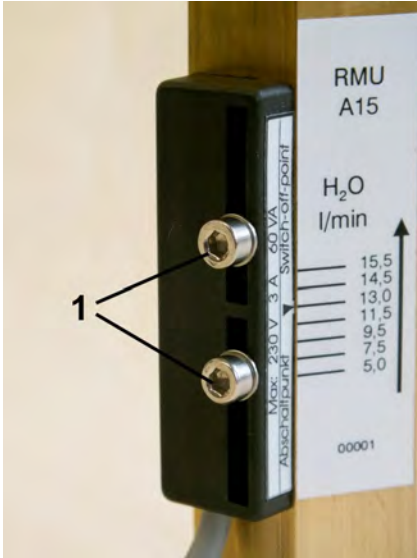

Fig. 24: Loosen the set screws (example switch point adjustment scale)
1. ➔ Loosen the set screws of the switch contact (Fig. 24/1) using a hex screwdriver.
3. ➔ Tighten the set screws of the switch contact (Fig. 24/1) using a hex screwdriver. When doing so, observe the correct tightening torque.